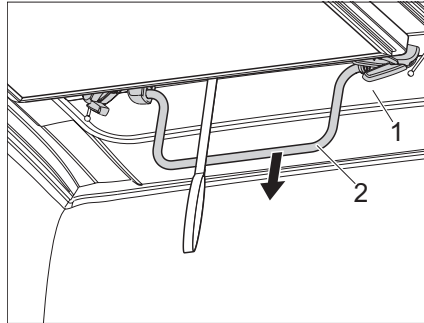

Fig. 42 Pulling the pop-up roof downwards
- ▶ Looking towards the back, pull the pop-up roof (Fig. 42,1) by the bar (Fig. 42,2) **slowly** downwards and observe whether the cloth bellows drops cleanly inwards.